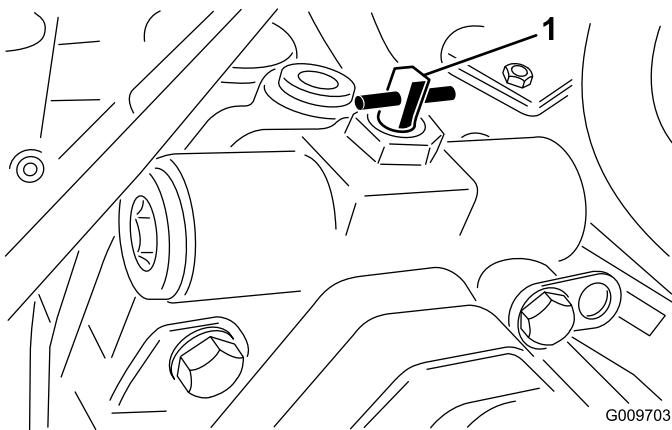

Figure 43
2. Rotate the bypass valve 90° (1/4 turn) in either direction to open and allow oil to bypass internally (Figure 43). Because fluid is bypassed, the machine can be slowly moved without damaging the transmission. Note the position of the valve when opening or closing.